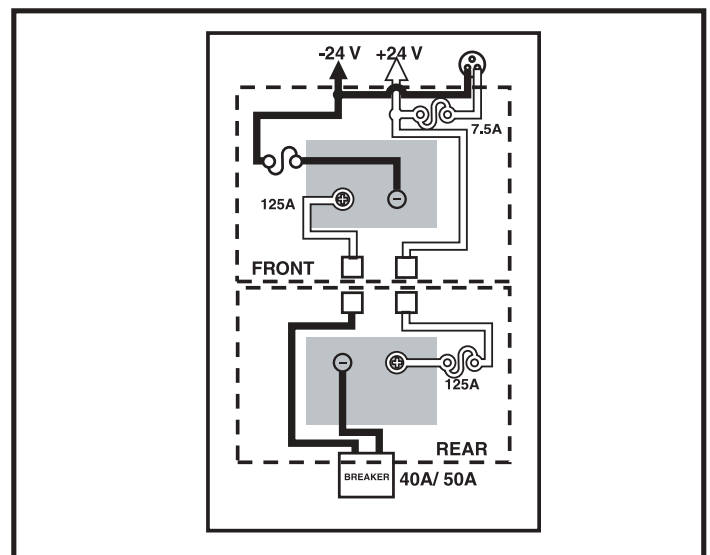

Figure 29. Battery Wiring Diagram
7. Reconnect the battery harnesses according to the battery wiring diagram label. See figure 29.